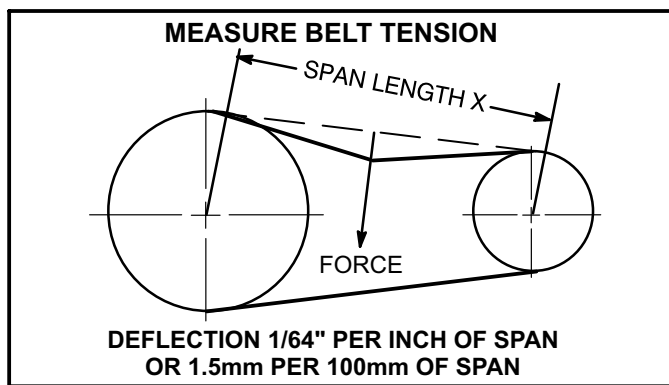

FIGURE 14
- 1- Measure span length X. See figure 14.